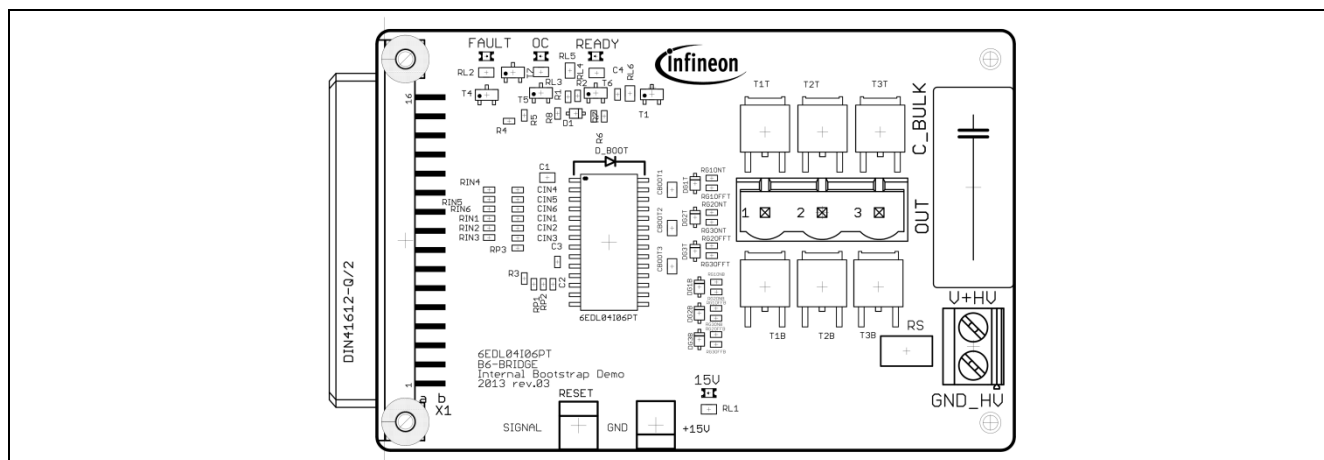

Figure 16 Top place view of the EVAL-6EDL04I06PT
*see Figure 16 for connector pin numbering